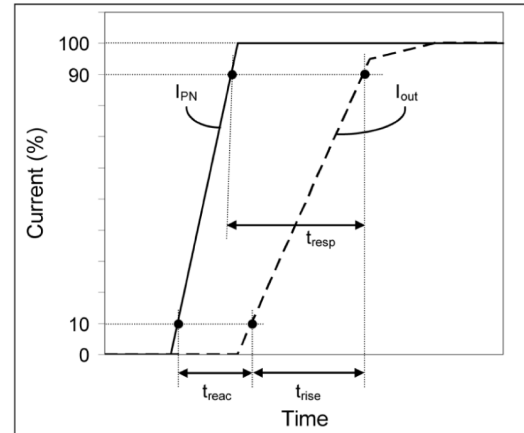

Fig.2: Definition of reaction time (t_{reac}), rise time (t_{rise}) and response time (t_{resp}).
1) $I_P = I_{PN}$ with di/dt of $150\text{ A}/\mu\text{s}$. See Fig.2.